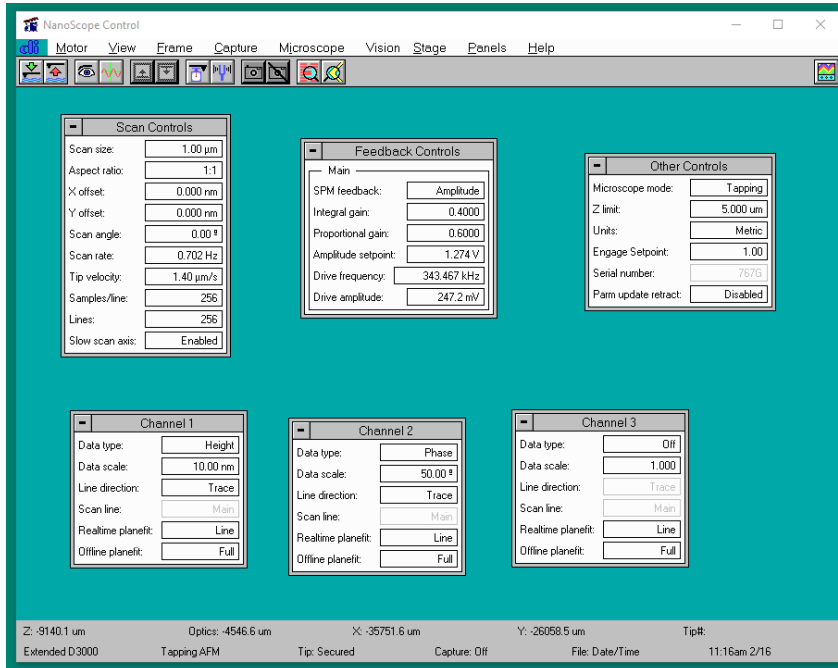

Figure 1: Software Control
- 2) Preview software (Figure 1)